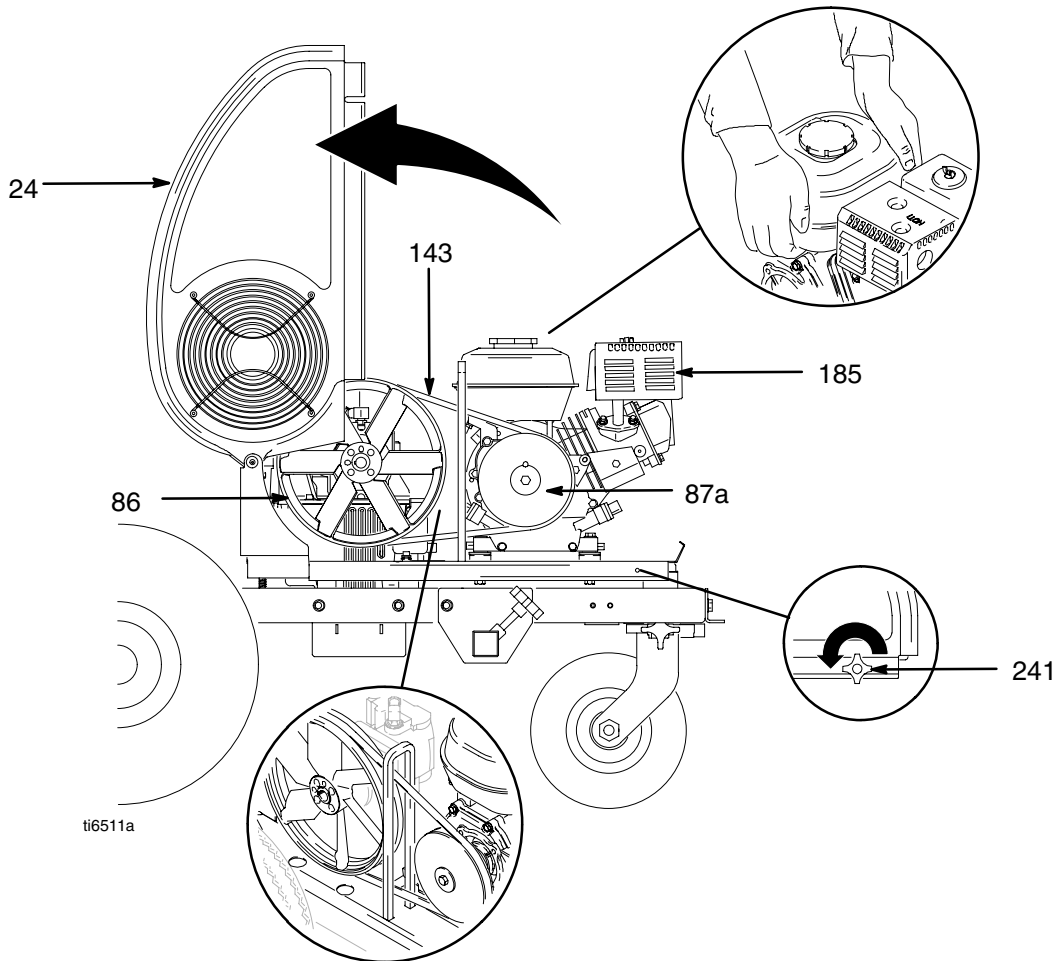

Fig. 5
2. Fig. 5. Loosen belt guard knob (241).
3. Rotate belt guard (24) up.
4. Lift engine (185) up to remove tension on belt (143).
5. Remove belt from fan pulley (86) and fan pulley (87a).